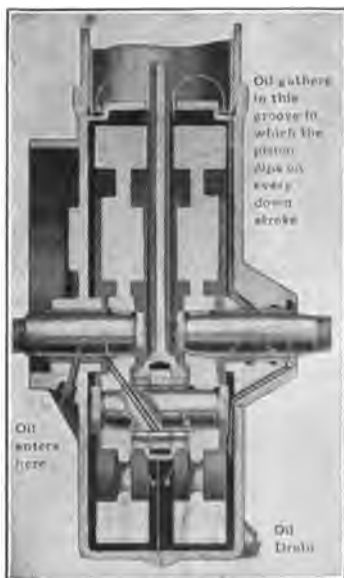

Fig. 34. Excelsior Lubricating System
**Lubrication. Path of Oil.** A lubricating system, as used on the Excelsior motorcycle motor, is shown in Fig. 34, and gives the particularly neat method by which motors of this type are oiled. In this case, the oil is first fed to the main bearing on the cam-case side, as shown by the arrow. This oil is fed by pressure from a pump and, after covering this bearing, is forced out at the end and flows through the drill hole shown, which brings it out above by centrifugal force to the connecting-rod bearing. This bearing throws the excess oil out, splashing it in all directions and up through the slot through which the connecting rod runs. From here it runs out on either side and gathers in a groove at the bottom edge of the cylinder. The bottom of the piston drops into this trough of oil every time it comes down, thus carrying the even film with it up the walls of the cylinder. The excess oil flows down the side of the crank-case and feeds the right-hand bearing. Excess from here is caught on the outer end of the shaft and returned to the crankcase, where it is splashed up again into the motor for further use.